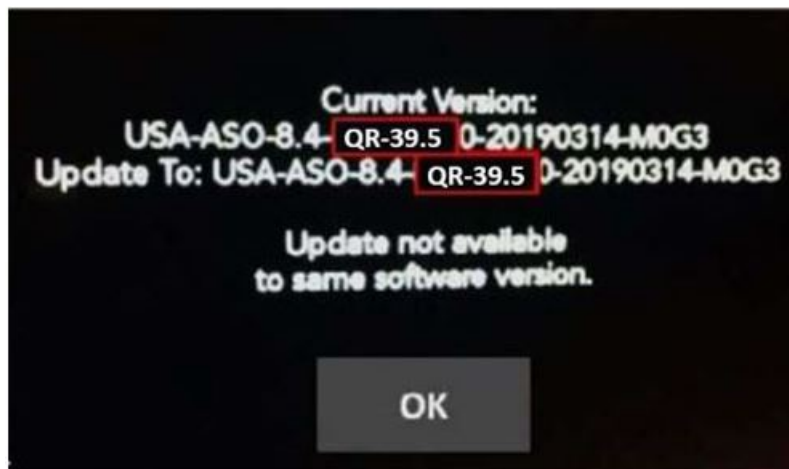

Fig. 6
12. If the radio software is already up to date, the screen in (Fig. 6) will be displayed. Press "OK" and remove the USB flash drive.